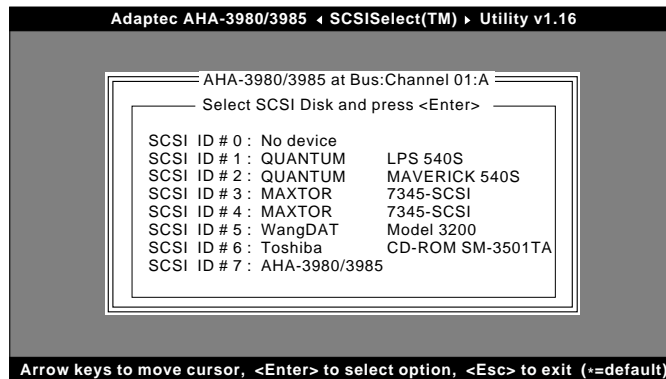

Figure 13-36. Sample List of SCSI IDs
Note: If you do not know the SCSI ID of a device you want to configure, press **Esc** until the Options menu appears, then select **SCSI Disk Utilities**. A list of SCSI devices and their SCSI IDs appears, as shown in Figure 13-36. Note the ID of the device you want to configure. Press **Esc** to redisplay the Options menu, then repeat steps 4 and 5.
- 3 Select **SCSI Disk Utilities**. *SCSISelect* scans the SCSI bus and lists the SCSI IDs and associated devices on the SCSI bus (see Figure 13-36).
Figure 13-36 shows seven SCSI IDs. Fifteen SCSI IDs are listed for the AHA-3980W/3985W adapters.